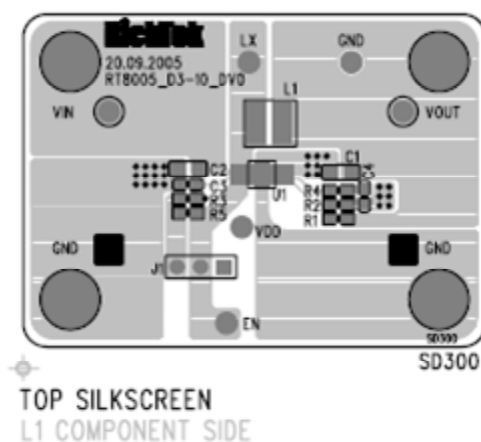

Figure 2. Top Layer
- } An example of 2-layer PCB layout is shown in Figure 2 to Figure 3 for reference.